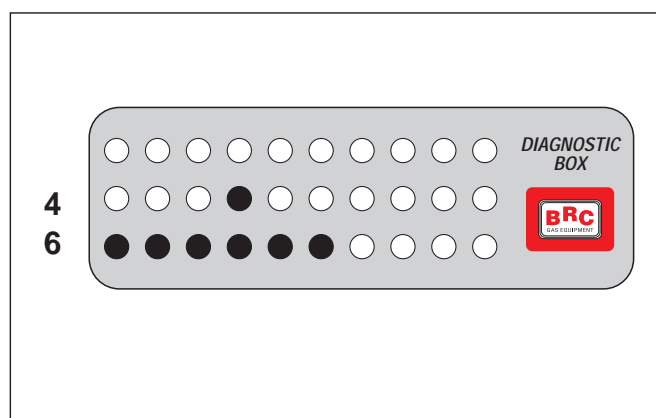

Fig. 40
- **The default value at the end of the first acquisition and self-configuration procedure is = 46** (fig. 40).